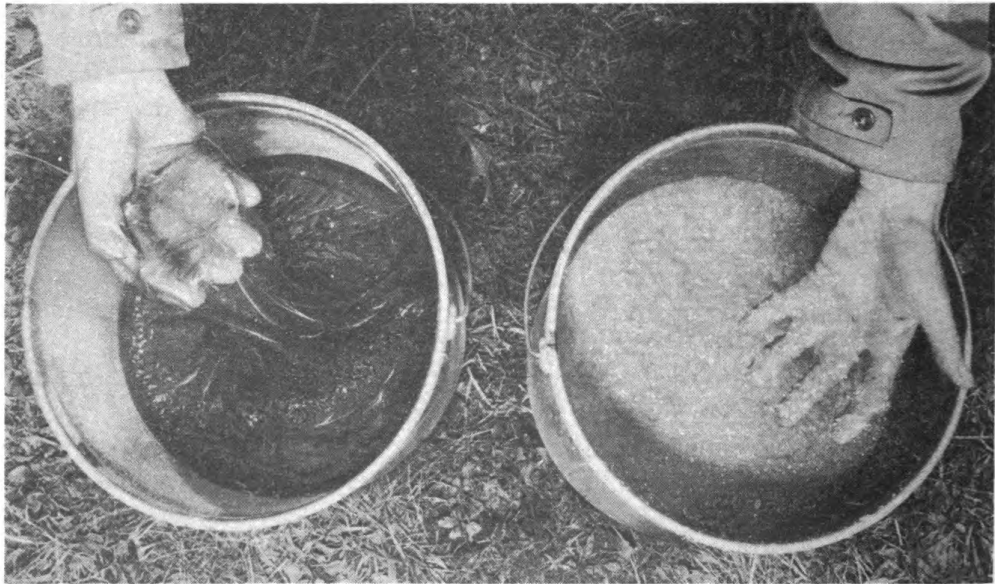

Fig. 111. Contrasting aged thickened fuel, left, with newly mixed fuel, right.
i. Aging and storing. Newly mixed fuel has the appearance of tapioca pudding (fig. 111). Store it overnight before use, if possible. It may be fired, however, within 1 hour after mixing. Store and ship fuel in drums which are clean, moistureproof, dry, strong, and unruined, but not galvanized. Keep them tightly closed and lay them on their sides so that rain water does not collect around bungs.